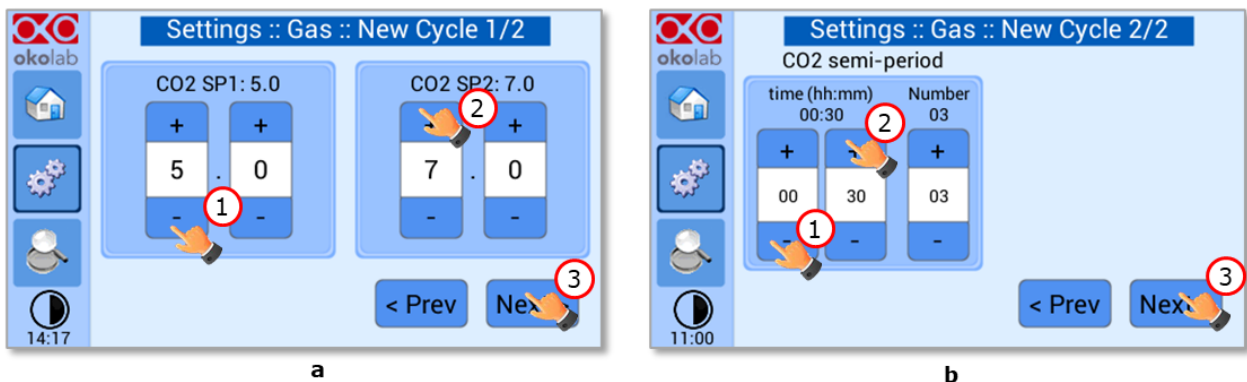

Figure 42. CO₂ Concentration cycles settings (a – b).
1. Choose the two CO₂ concentrations between which you want to switch (*SP1*: Setpoint 1 and *SP2*: Setpoint 2, as shown in Figure 42 a).
2. Set the duration in hours and minutes you want the system to dwell on each concentration (1, 2 in Figure 42 b).
3. Set the number of cycles (*Number*) you want the system performs (3 in Figure 42 b). Finally press *Next* (3 in Figure 42 b).